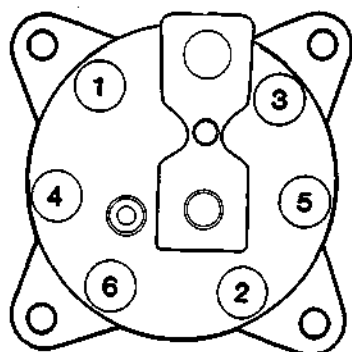

Figure 3.
12. Position the cylinder head (Fig. 2-1) on the cylinder block (Fig. 2-2), fit and tighten the securing bolts in the sequence shown in Fig. 3.